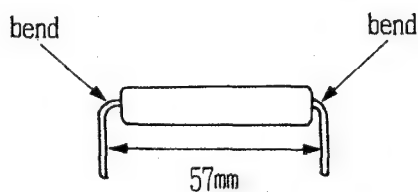

Fig.1
- 2) Bend the lead of a new battery as shown in Figure 1, and install it on the specified position of the board, starting from negative (-) terminal.